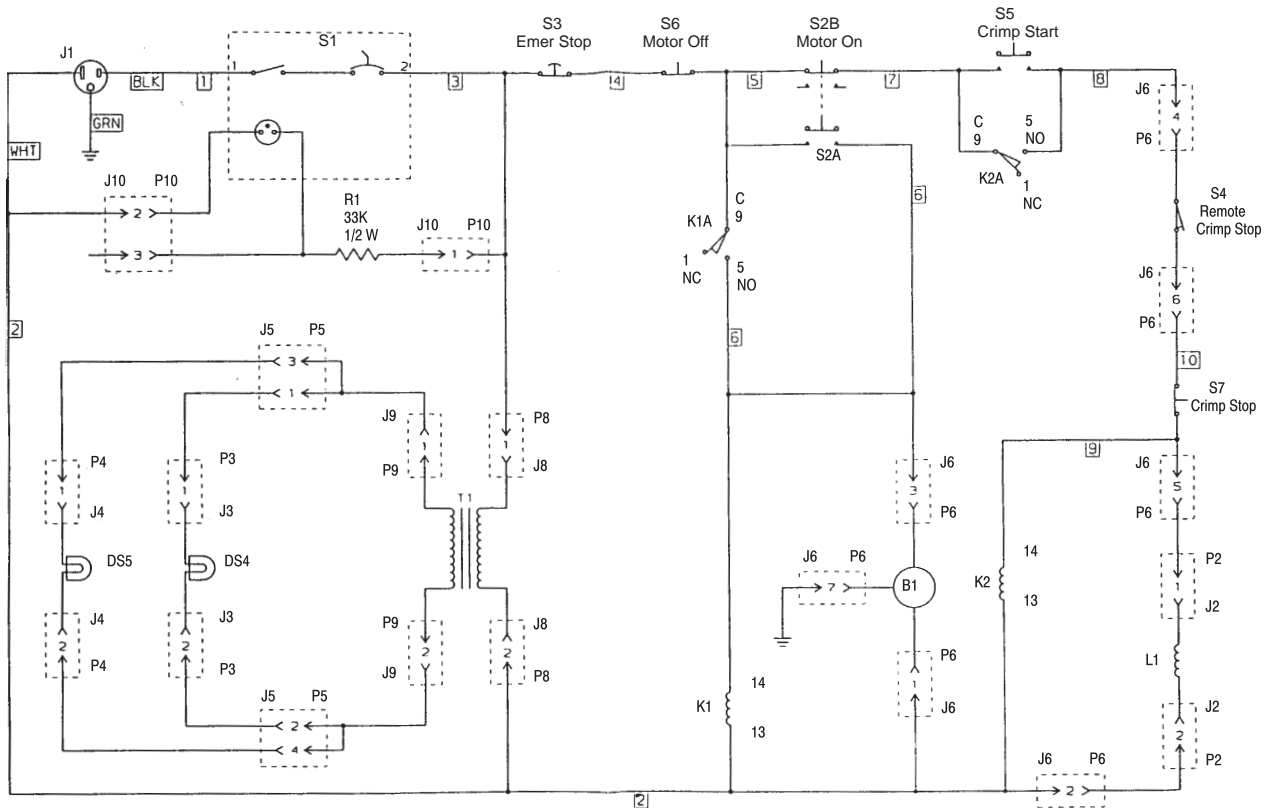

Figure 5
The power supply switches are keyed to the electrical schematic in Figure 5 and described in Paragraph 2.3, Electrical System Description. The timing of the machine is preset and cannot be re-adjusted.
**2.3. Electrical System Description (Figure 5)**